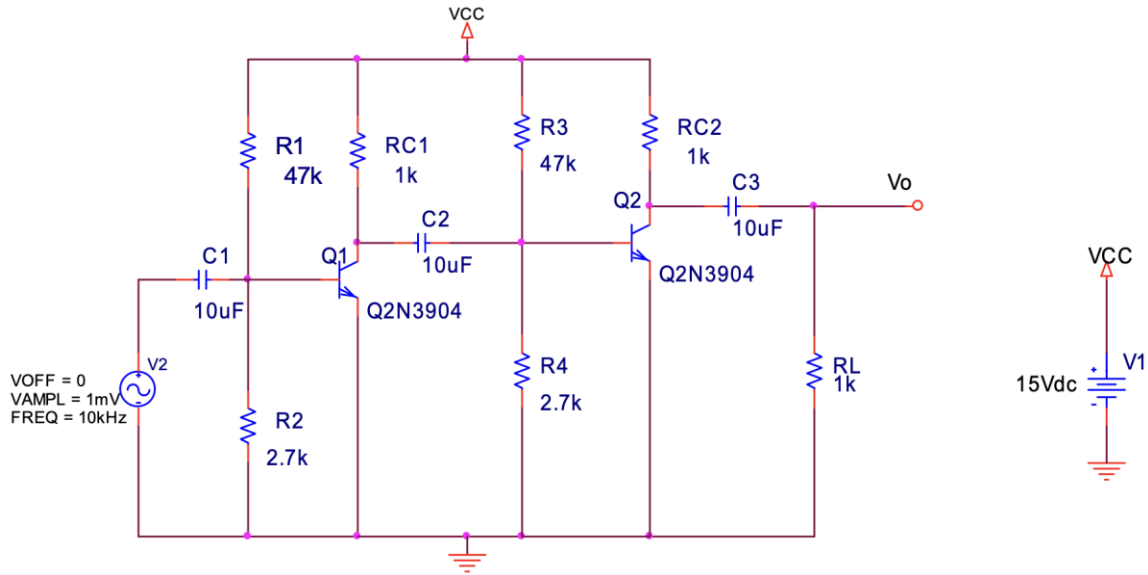

Figure 6. A two-stage CE amplifier circuit
The circuit in Figure 6 is a two-stage common-emitter (CE) amplifier, which has not yet been covered in this course. While you may not be familiar with its theoretical analysis, our focus in this lab will be on other relevant aspects of its operation. The input signal v_2 in the far left is a sinusoidal waveform, which gets amplified and appears as the output (v_o) in the far right of the circuit. It is important to note that the DC biasing voltages and currents do not reach the output terminal v_o . As a result, the load only receives the amplified AC signal applied to the input.
- i) **Circuit construction:** Construct the circuit shown in Figure 6 in a Multisim design window. Use the same elements shown in the given circuit. Apply the input signal as shown in the circuit. **Use a multimeter** to determine the following biasing (DC) voltages and currents and write them in the spaces provided below. Ensure that your readings do not contain any AC component, i.e. the signal.